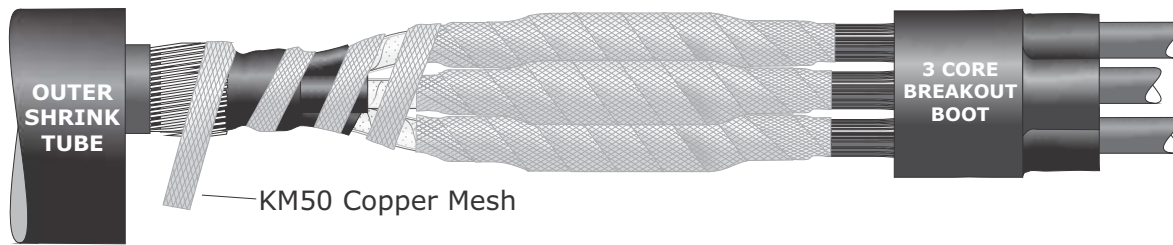

Fig 18
25. Using the KM 50 tinned copper mesh applied with a 50% overlap, apply around each core as shown in Fig 18. With an open spiral extend to the armours of the 3 core pilc cable.